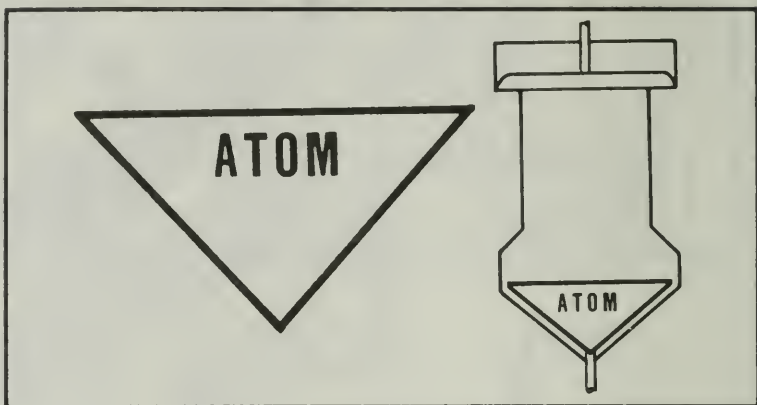

Figure 282. Standard radiological contamination markers.
a. If you see a standard radiological contamination marker (Figure 282), notify your supervisor.